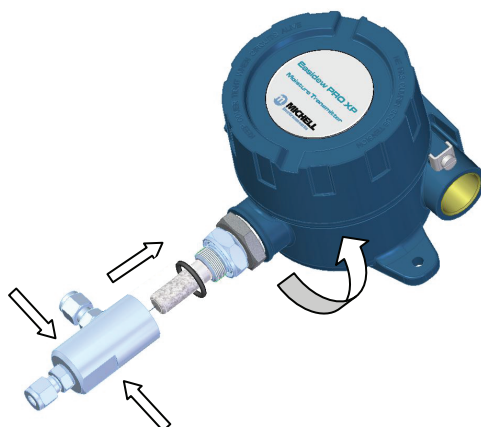

Figure 8 *Transmitter Mounting - Sample Block*
2. Ensure the O-ring (see *Figure 8*) is located correctly within the O-ring groove of the process connection and there is no contamination or debris on its exposed surfaces.